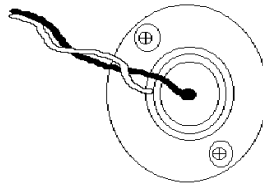

Fig. 8.3.1. Bulb retaining screws.
2. Identify the blown bulb, which will have a broken filament, and may also be blackened. Remove the two retaining screws (fig. 8.3.1), so that it may be released.